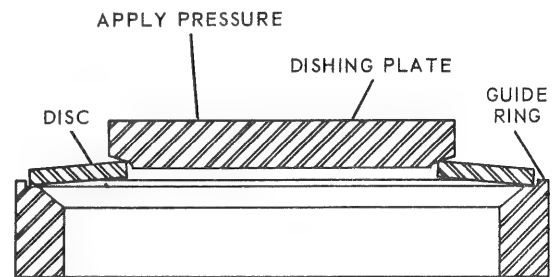

Figure 2-21. Straightening Disc
c. If brake disc requires only straightening (figure 2-21), place dishing plate on disc and apply sufficient pressure to force disc through the horizontal plane far enough so that when pressure is released the disc will return to a flat condition.